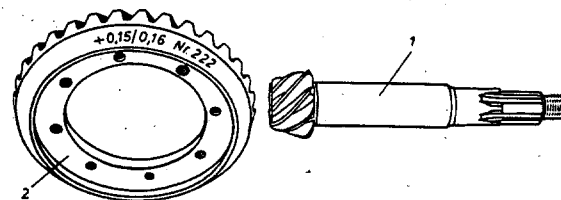

Fig. H 3a/51
51. When installing a set of new or relapped gears the same distance of the gears with reference to each other and the same tooth backlash as determined on the test tool must be maintained in the rear axle housing. Measure the accurate distance between front edge of pinion and center of ring gear. The back of the ring gear bears the ratio as well as the installation dimensions (Fig. H 3a/51).